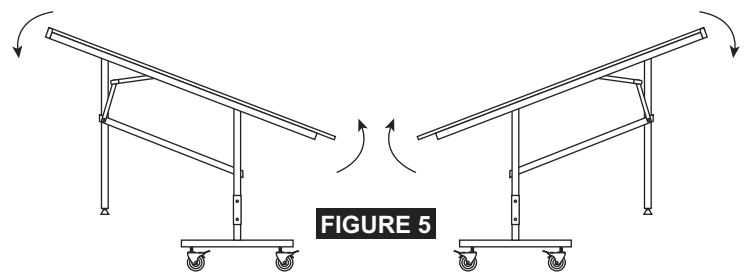

FIGURE 5
2. Fold each half table as shown in **FIGURE 5**.